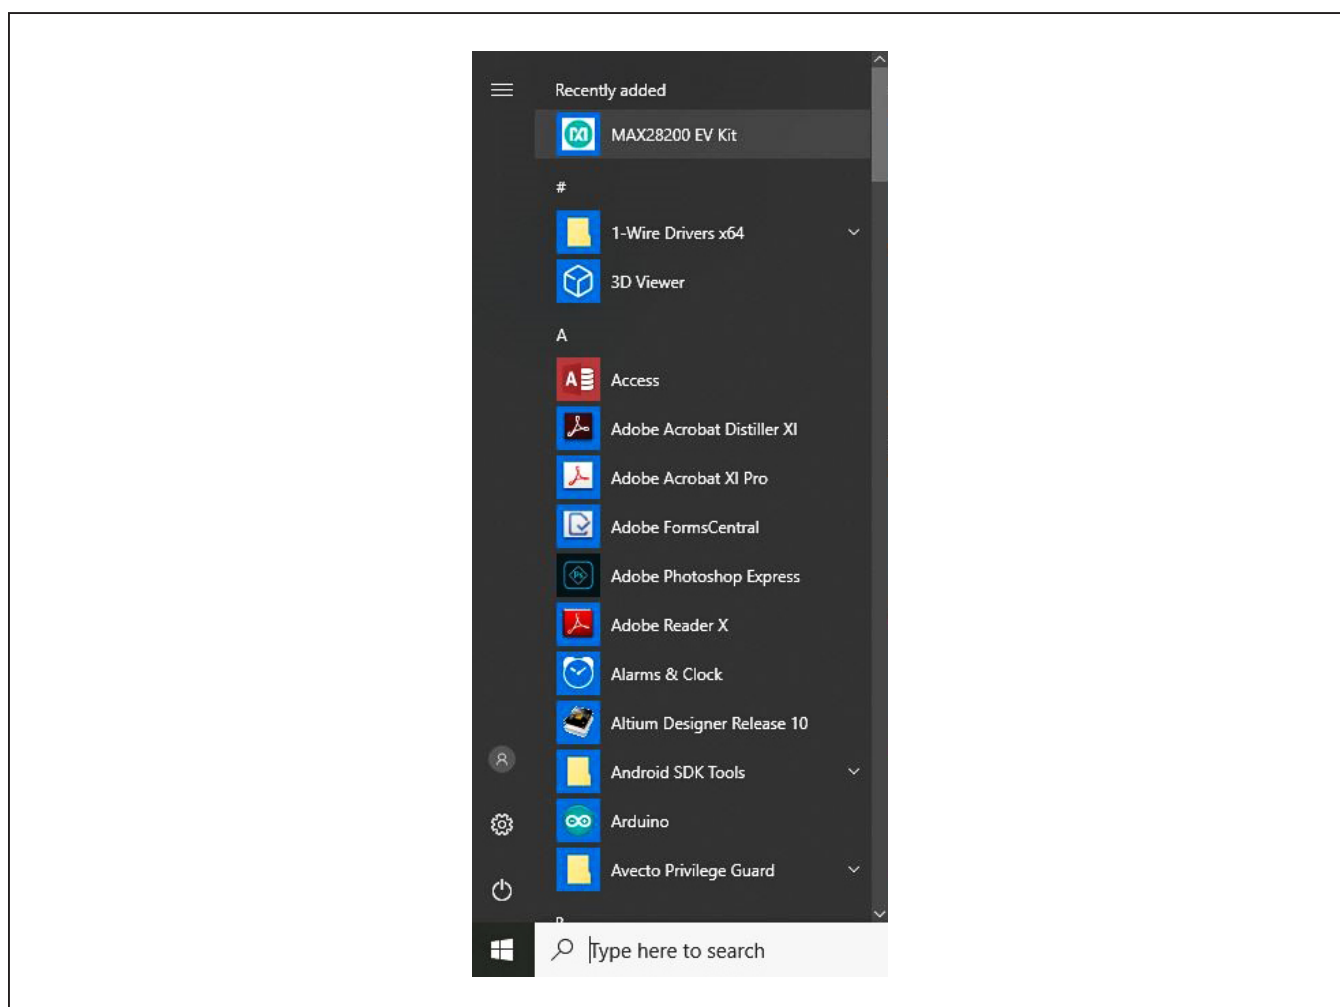

Figure 11. Windows Start Menu to Start EV Kit Program
- 1) From the **Windows Start** menu, select **MAX28200 EV Kit** (Figure 11).